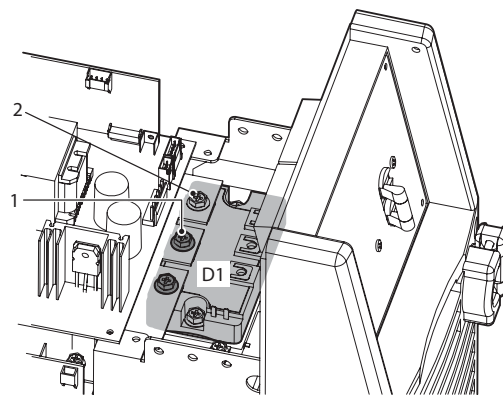

Figure 10-8: Check Points for 1 (P) and 2(N)
5) Verify the rectified output voltage of the input diode, D1 using a DC voltmeter. (The capability of the voltmeter should be more than 1000VDC.) Using a DC voltmeter, measure between the points 1 (P) [+] and 2(N)[-] on D1. Points 1 (P) and 2 (N) are on D1. See Figure 10-8. The measured voltage should be approximately 1.4 times larger than input voltage measured in #1 above. Replace diode D1 if the calculated measurement is not within the corresponding range (260 ~ 360 / 580 ~ 720 VDC) following the process in section 11.03.31.